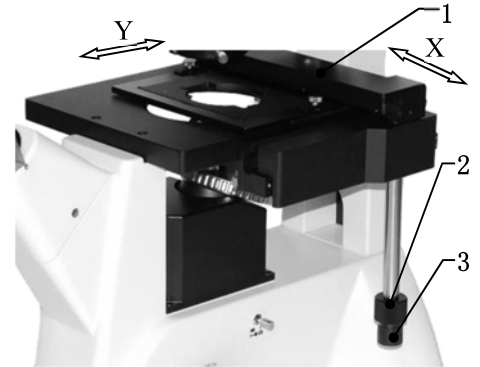

Fig. 14
- (1) The longitudinal (Y) and transverse (X) movement of the stage moving device 1 is realized by the longitudinal adjusting knob 2 and the transverse adjusting knob 3 that are coaxial, as shown in Fig. 14.